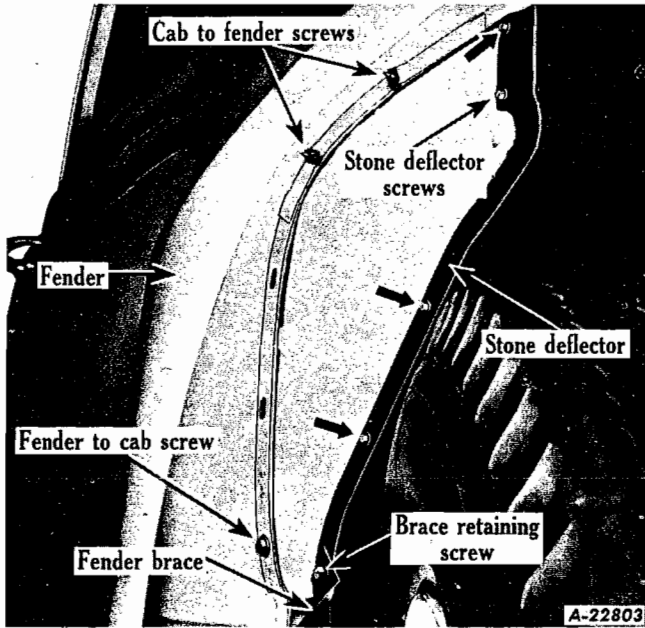

Fig. 62
- Remove fender brace retaining screw (both sides) from cab (Fig. 62).
- Remove four fender stone deflector to cab retaining screws on both sides (Fig. 62).
- Remove fender to cab retaining screw and two cab to fender retaining screws from inside of cab on both sides (Fig. 62).